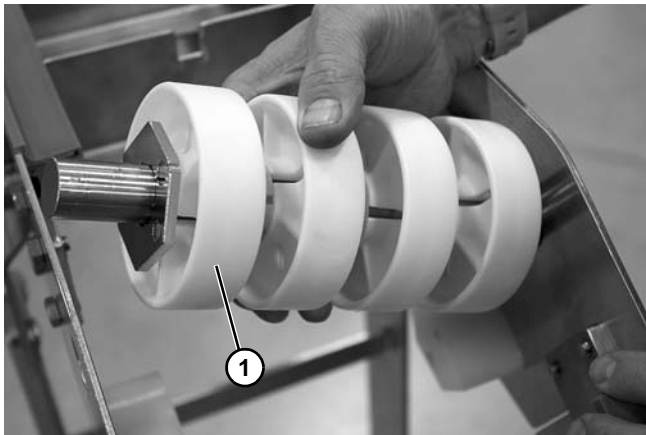

Figure 77
3. Remove upper shaft assembly (**Figure 77, item 1**).